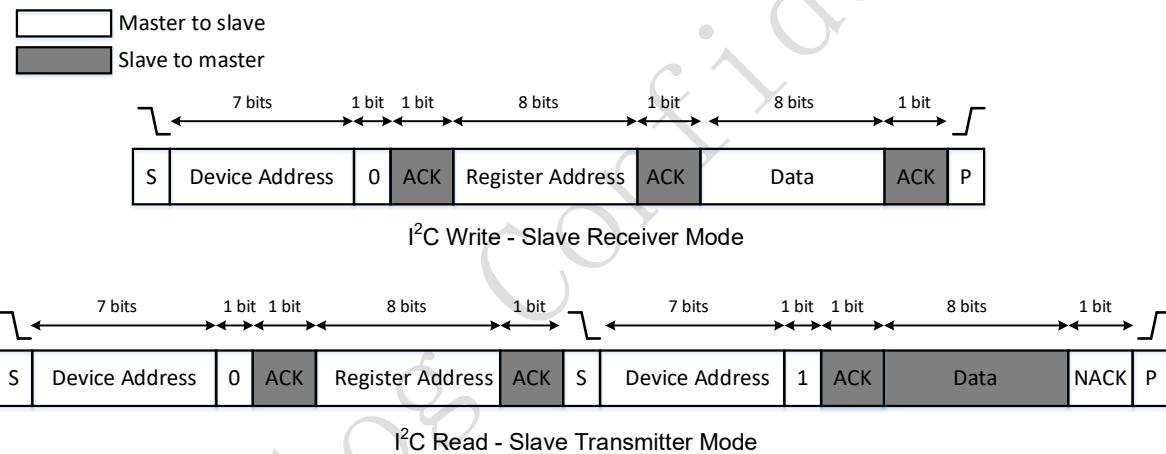

Figure 3, I²C Read/Write operation
1. Slave Receiver Mode (Write Mode): Serial data and clock are received through SDA and SCL. After each byte is received an acknowledge bit is transmitted. START and STOP conditions are recognized as the beginning and end of a serial transfer. Address recognition is performed by hardware after reception of the slave address and direction bit (see Figure 3 for Interface). The slave address byte is the first byte received after the